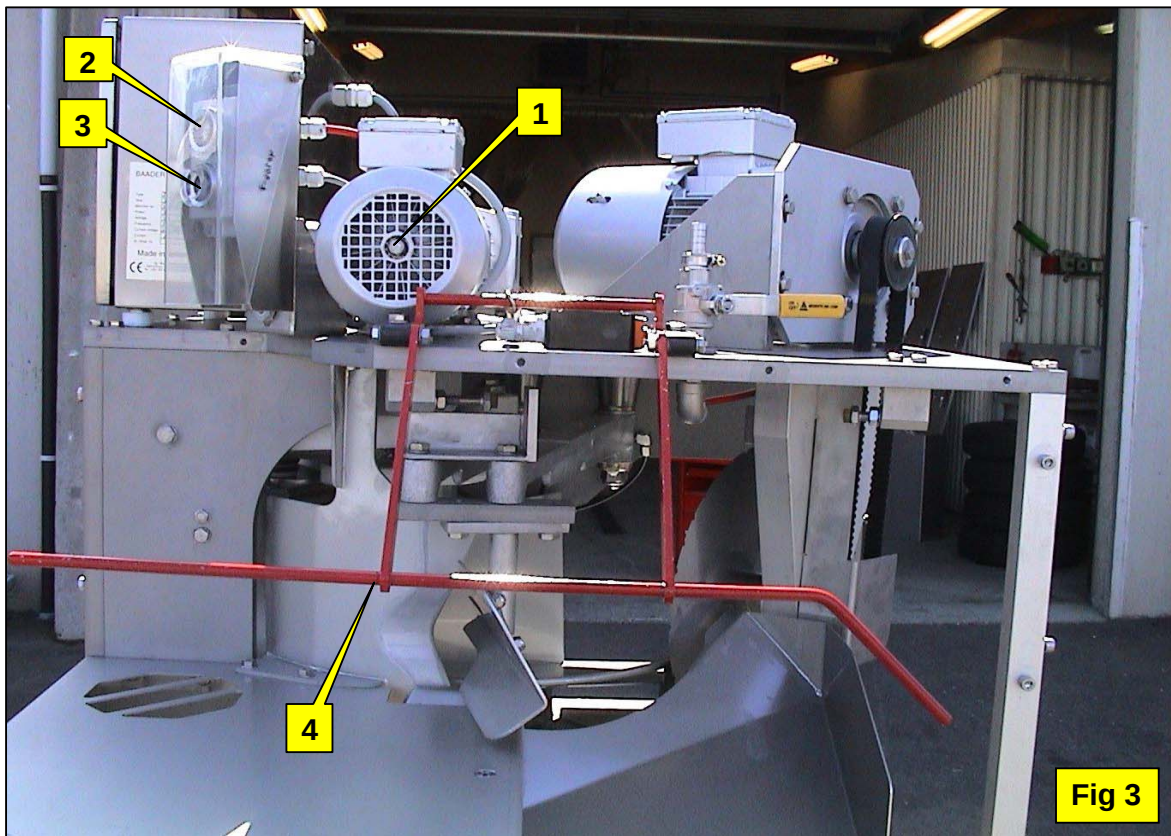

Fig 3
Use a suitable tool to manually rotate the machine (fig.3 item 1)
Start-reset button (fig.3 item 2).
Stop button (fig.3 item 3)
Safety lever Emergency Stop (fig.3 item 4)